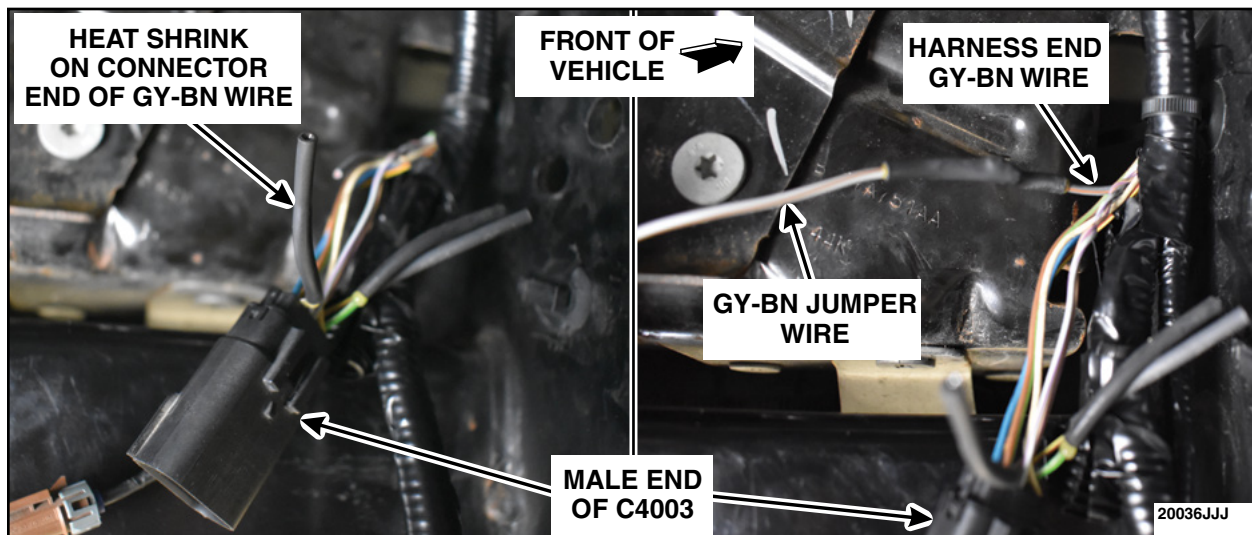

FIGURE 70
94. Cut the GY-BN wire and seal the connector end of the wire using heat shrink tubing. Solder in the GY-BN jumper wire into the harness end of the cut wire. Seal using heat shrink tubing. See Figure 70.